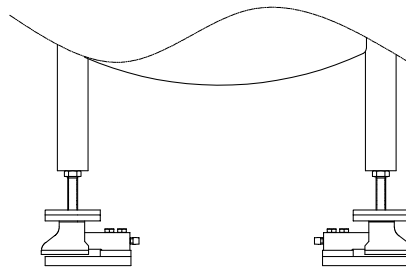

Figure 5-10: Incorrect attachment of leg to weigh module top plate.
- The connection of the weigh module top plate to the scale structure must be rigid, for example, it cannot be through a slender stem as shown in Figure 5-10. This is a consequence of point 2. above, any eccentricity of the underside support to the top plate will produce a couple tending to bend the stem. See also Support Deflection below for further information.